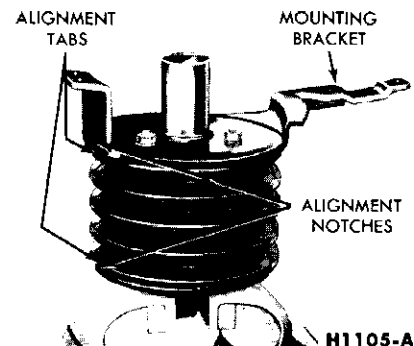

FIG. 4—Pedal Assist Power Unit
1. Clamp the power unit in a vise equipped with soft jaws (Fig. 4). Remove the three nuts that retain the mounting bracket, and remove the bracket.
1. Mount the valve housing in a vise equipped with soft jaws. Position it so that the alignment marks are readily visible (Fig. 4).